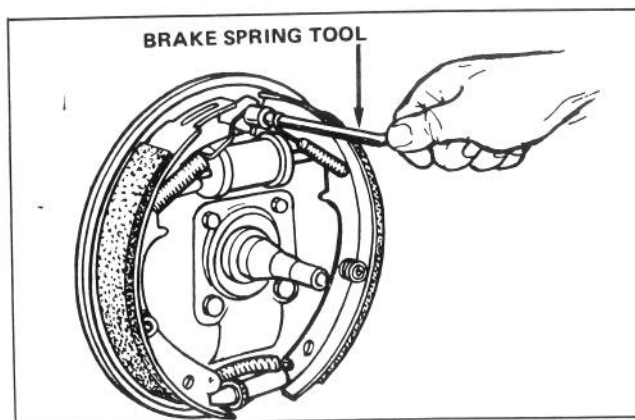

Figure 31
4. Remove shoe return springs (Figure 31) and automatic adjuster spring. Then remove automatic adjuster cable, cable guide, adjuster lever and shoe guide plate, if used.